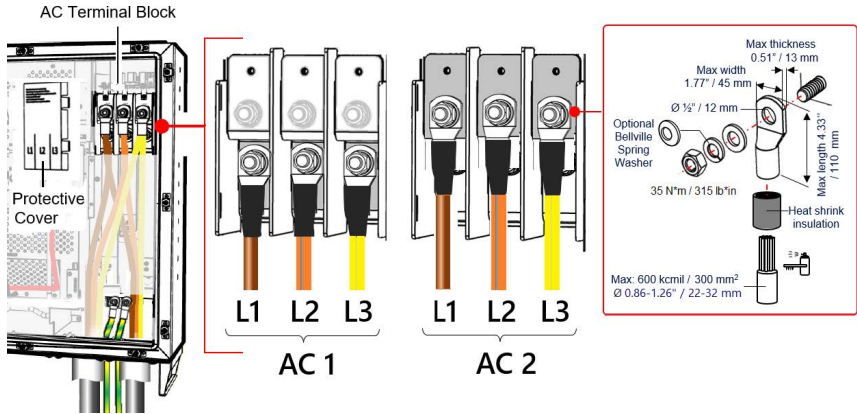

Figure 31: Connecting AC wires to the Inverter
11. Connect the L1, L2, L3 wires to the terminal block according to the labels on the terminals. Tighten the nuts to 35 N\*m/315 lb\*in (see *Figure 31*).